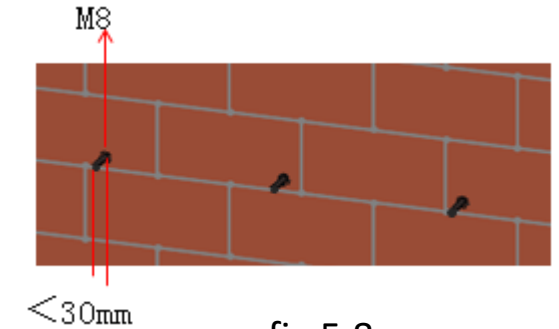

fig 5.8
- ② Insert M8 expansion bolt into the holes and leave no more than 30mm outside. Please refer to fig 5.8.